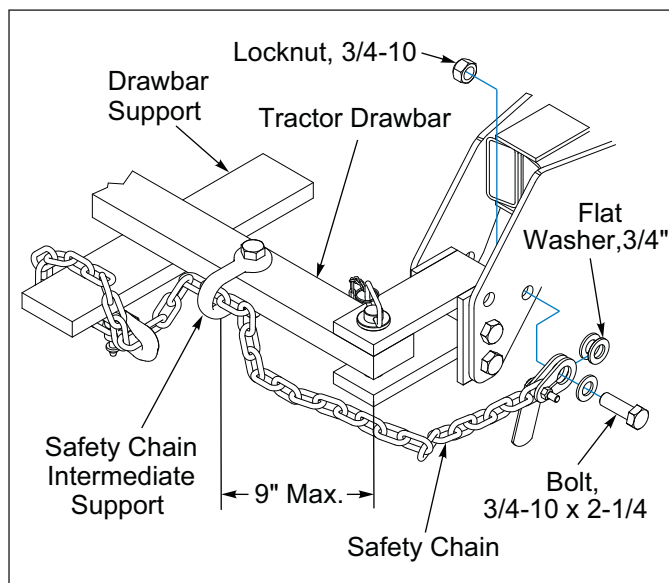

Figure 3-5: Safety Chain
4. Attach Safety Chain to tractor allowing plenty of movement for turning both directions. The Safety Chain should latch securely to prevent it from coming loose. **See Figure 3-5.**
2. Raise the Seeder fully to extend the Hydraulic Lift Cylinders and rotate the Transport Locks in the engaged position over the Cylinder Rod. Secure with the Clevis Pins and Hairpin Cotters. **See Figure 3-5.**
3. If not already done, raise Seeder fully to extend the Hydraulic Lift Cylinders and rotate the Transport Locks in the engaged position over the Cylinder Rod. Secure with the Clevis Pins and Hairpin Cotters. **See Figure 3-5.**
1. Raise the Seeder fully to extend the Hydraulic Lift Cylinders and rotate the Transport Locks to the engaged position. Secure with the Clevis Pins and Hairpin Cotters. **See Figure 3-5.**